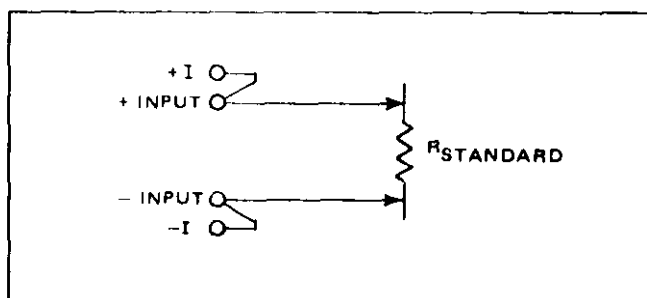

Figure 5.6 - Connections for Ohms Range Adjustment -
- a. Connect standard resistors to the input in the order listed in the following table. Select range as listed for each step and adjust the indicated control for a readout equal to the standard resistor value. Connect as shown in figure 5.6.